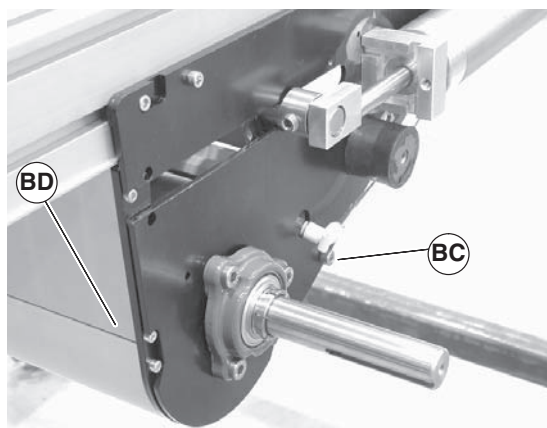
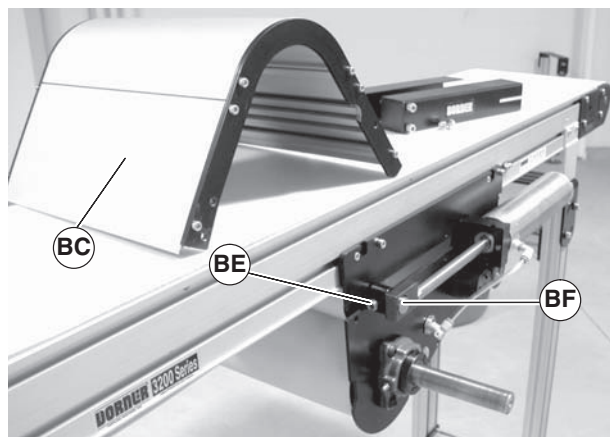
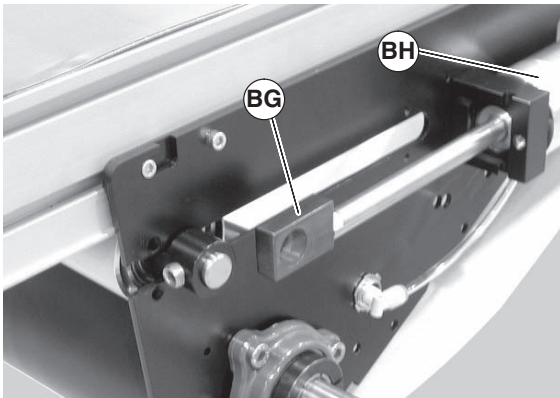

Figure 26
Figure 27
Figure 28
6. Temporarily support the tensioning roller guard (Figure 26, item BD). Remove screws (Figure 26, item BC) on both sides of center drive and remove tensioning roller guard (Figure 26, item BD) and (Figure 27, item BD).
7. Loosen tensioning roller set screws (Figure 27, item BE).
8. Push shaft (Figure 27, item BF) through block, slide block (Figure 28, item BG) towards air cylinder (BH).